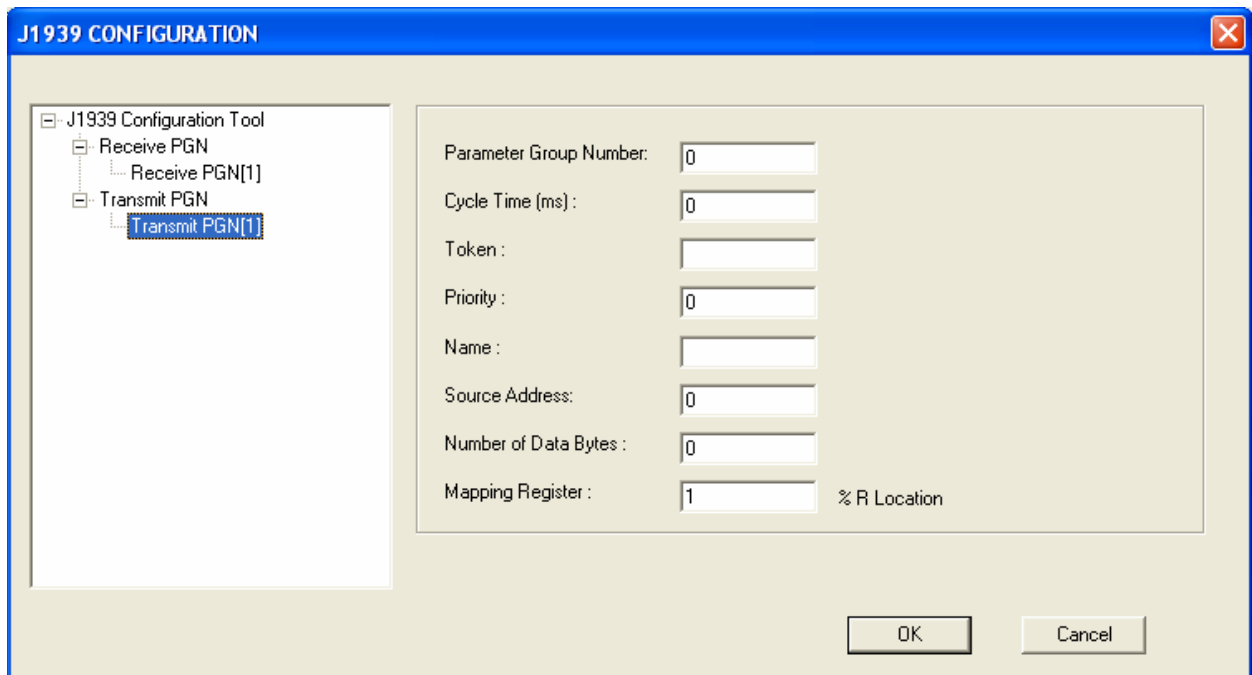

Figure 3.7 – Configuration of Transmit PGN
Select Transmit PGN (1) and configure the same. Refer Fig 3.7. For detailed description refer section 3.3